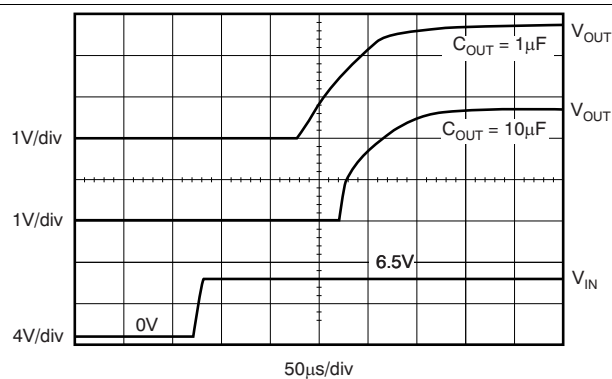

Figure 29. Turn-On Response
Note that for fastest startup, apply  $V_{IN}$  first, then the enable pin (EN) driven high. If EN is tied to IN, startup is somewhat slower. Refer to Figure 29 in Typical Characteristics. The quick-start switch is closed for approximately 135  $\mu$ s. To ensure that  $C_{NR}$  is fully charged during the quick-start time, use a 0.01- $\mu$ F or smaller capacitor.